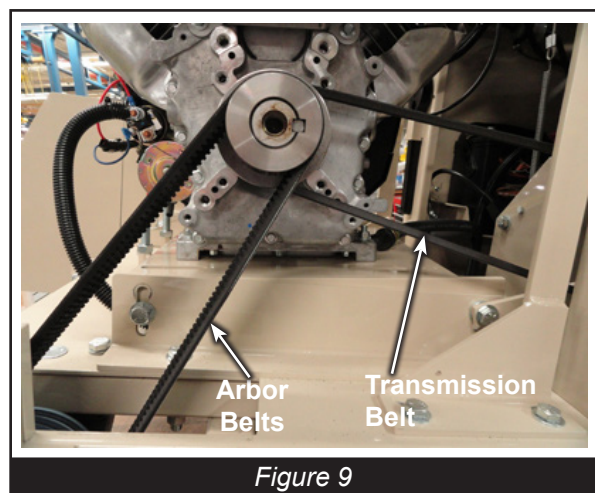

Figure 9
- Remove transmission belt from the engine sheave, (SS-30G, Figure 9).